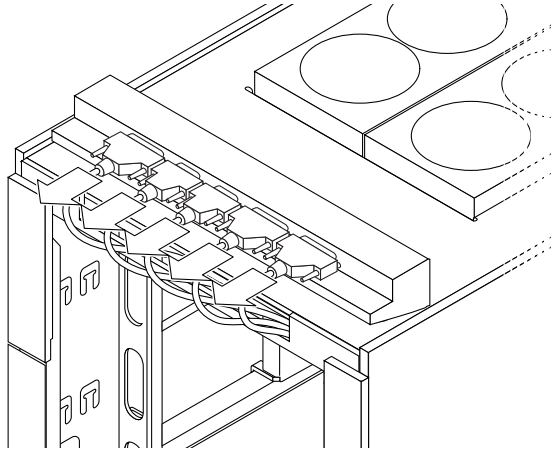

FIGURE 3-4 FrameManager Cable Location
3. Disconnect the five cables from the assembly (FIGURE 3-4).